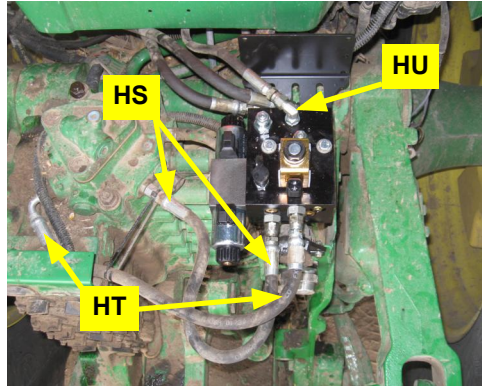

Figure 8a: Installed tank and pressure hoses and LS hose connected at steering block
- a. Install tank hose **HS** and pressure hose **HT** between the tractor test port fittings (Figures 5a-i to 5a-iii) and the **T** and **P** ports of the hydraulic steering block (Figure 8a).
- b. Connect the load sense hose **HU** to the **LS** port of the hydraulic steering block (Figure 8a).